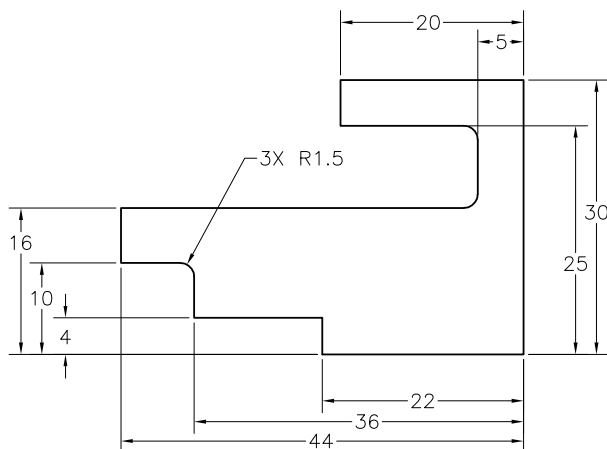

Figure 3-49 Sketch for Tutorial 2
In this tutorial, you will draw the sketch shown in Figure 3-49. This sketch is the same as the one drawn in Tutorial 4 of Chapter 2. In this tutorial, you will not use the **Inventor Precise Input** toolbar to draw the initial sketch. After drawing it, you will apply the required constraints and dimensions to fully constrain it. **(Expected time: 30 min)**
The dimensions shown in Figure 3-49 are linear dimensions. As the sketch is for a revolved feature, you need to add linear diameter dimensions to it. It is recommended to first apply all dimensions and then add fillets to the sketch. This is because a sketch generally changes its size after dimensioning. Before proceeding with adding dimensions to a revolved section, it is important for you to determine which line segment of the sketch will act as the axis for revolving the sketch. If you refer to Figure 2-46 in Chapter 2, you will notice that line 12 acts as the axis for revolving the sketch for this model. Therefore, while applying linear diameter dimensions, line 12 should be selected first.
4. Figure 3-49 shows the value to be specified as 4. Because the linear diameter dimensions are placed as the double of the original length, enter **8** in the **Edit Dimension** toolbar. The vertical distance between lines 12 and 10 is automatically adjusted to adjust the value entered.